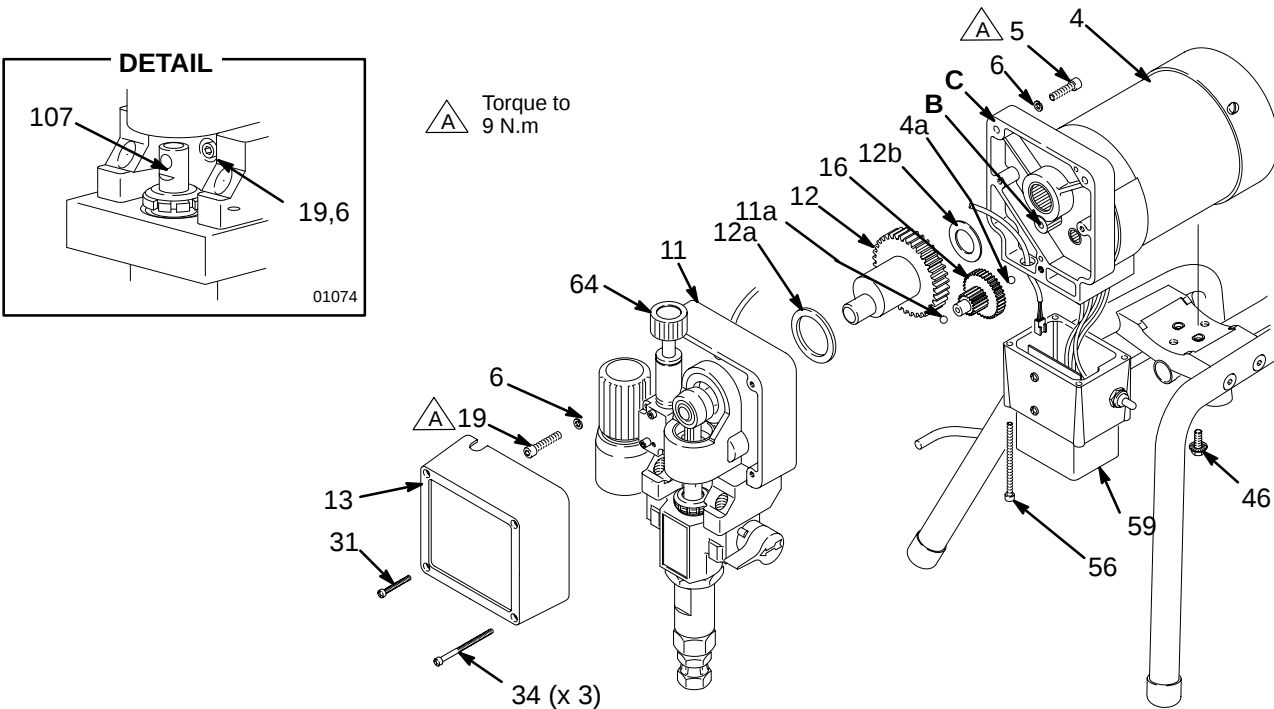
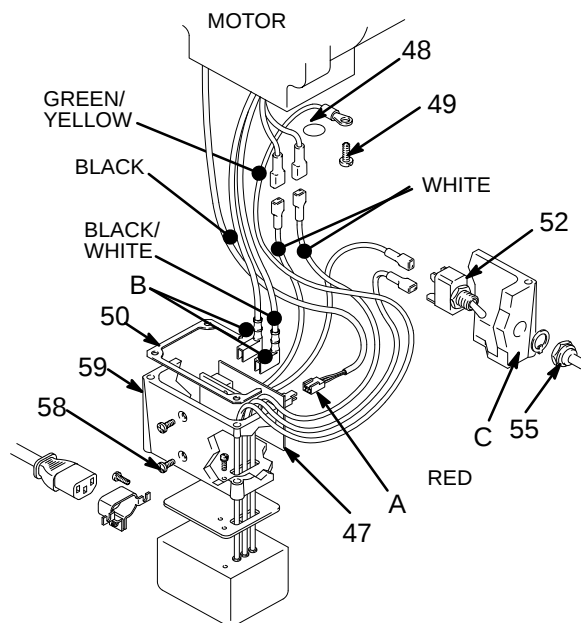
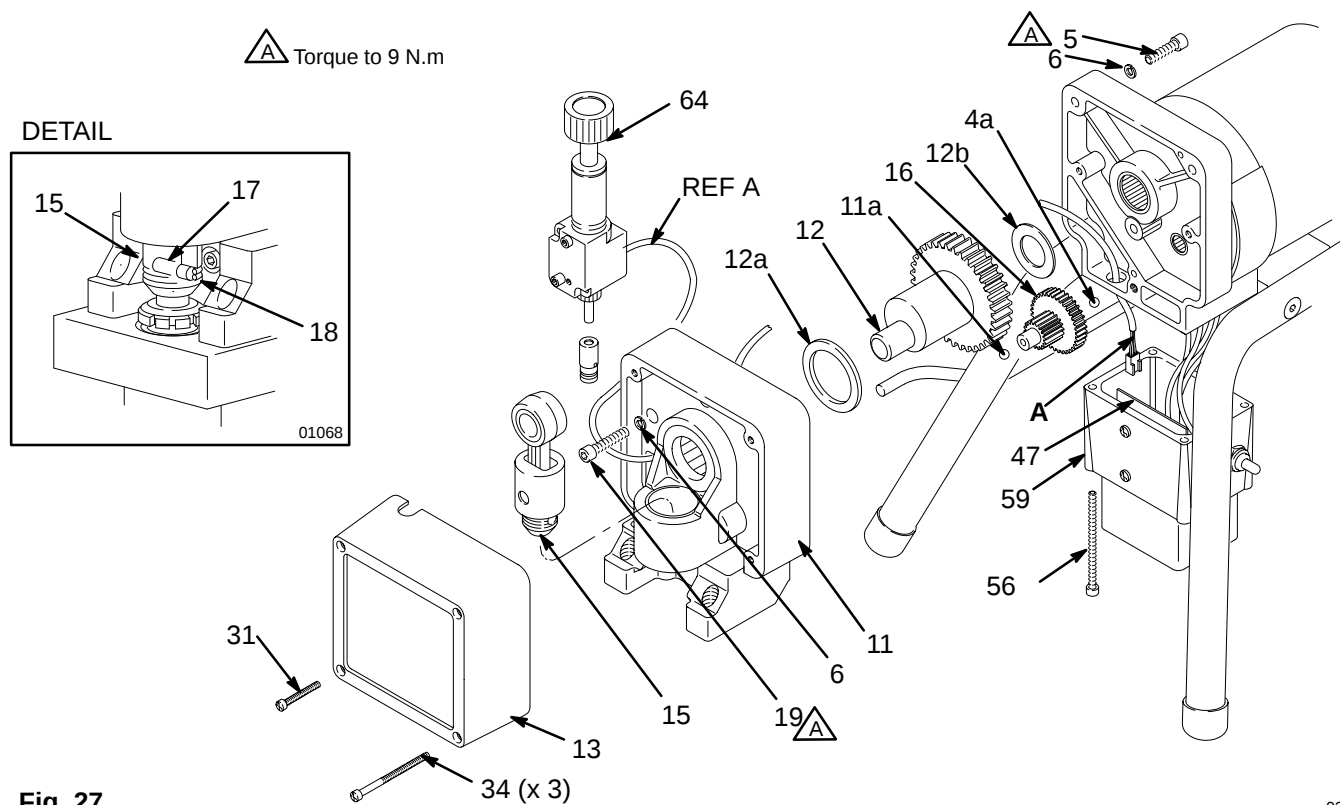
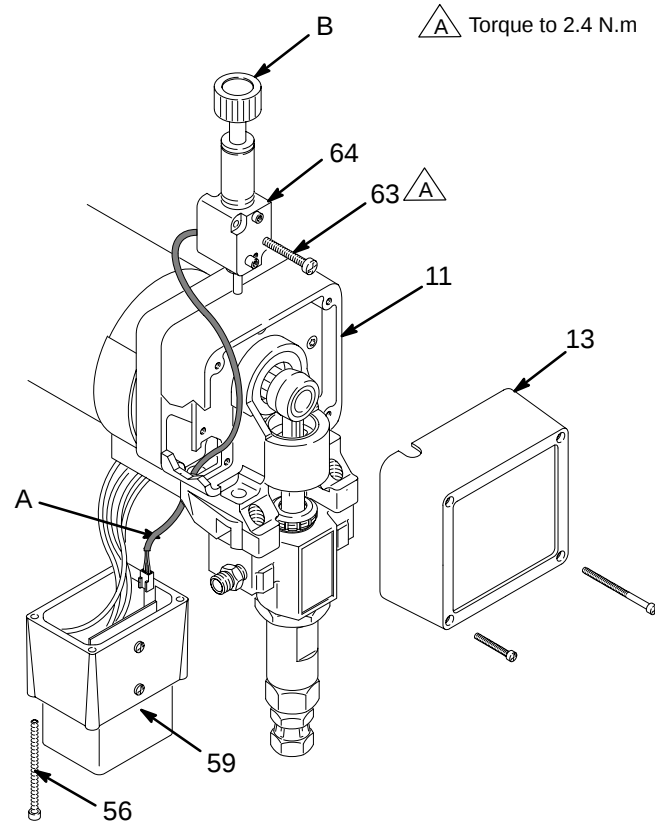

Fig. 25
Fig. 26
Fig. 27
Fig. 28
2. Try to stop the pump with the piston rod (107) in its lowest position. To lower the piston rod manually, rotate the motor fan blades. Use a screwdriver to push the retaining spring (18) up and push out the pin (17). See Fig. 25.
3. Remove the screws (56) and lower the junction box (59). Disconnect the motor wires and the pressure control wire (A) from the motor start board. Refer to Fig. 26 on page 29.
4. Remove the drive housing cover (13).
5. Remove the pressure control (69) while guiding the harness (A) through the motor.
6. Remove the motor fan blades (10) and the motor fan (11) from the drive housing (13). See Fig. 27.
7. Remove the motor fan blades (10) and the motor fan (11) from the drive housing (13). See Fig. 28.
8. Tap the lower rear of the drive housing (11) with a plastic mallet to loosen the motor. Pull the drive housing straight off the motor. Do not allow the gear (16) to fall. Read the CAUTION on page 30.
9. Remove the two screws (46) and lift the motor off the base (66).
12. Connect the wires in the junction box. Refer to Fig. 26 on page 29. Install the junction box.
13. Reconnect the piston rod (107) to the drive housing; see page 25, Installing the Pump, Step 2 and the Warning that follows the step.
1. Remove the junction box screws (56) and lower the junction box (59). See Fig. 25.
2. Disconnect the motor wires (B) and the 3-wire connector (A) from the motor start board (47). Disconnect the wire from the ON/OFF switch. Observe where connections are made. See Fig. 26.
3. Remove the screws (58) and motor start board (47). Transfer the white thermal paste from the old board to the new board. See Fig. 26.
4. Install the new motor start board. Reconnect all wires. Mount the junction box. See Fig. 26.
2. Remove the nut and rubber boot (55).
3. Disconnect the wires from the ON/OFF switch (52) and replace the switch. See Fig. 26.
4. Powder the inside of the rubber boot (55) with talcum, then shake the excess out of the boot. Install the nut and rubber boot and tighten.
2. Remove the pressure control (64). See page 32.
3. Turn the displacement pump rod (107) so the pin hole aligns with the bottom drive housing screw (19). See the DETAIL in Fig 27. Remove the three drive housing screws and lockwashers (19,6).